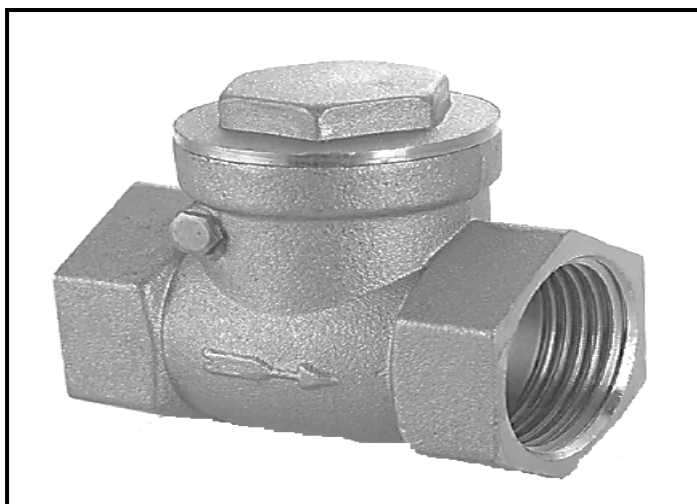

FIGURE 4.9
4.9 FIGURE 4.9 below shows a valve.